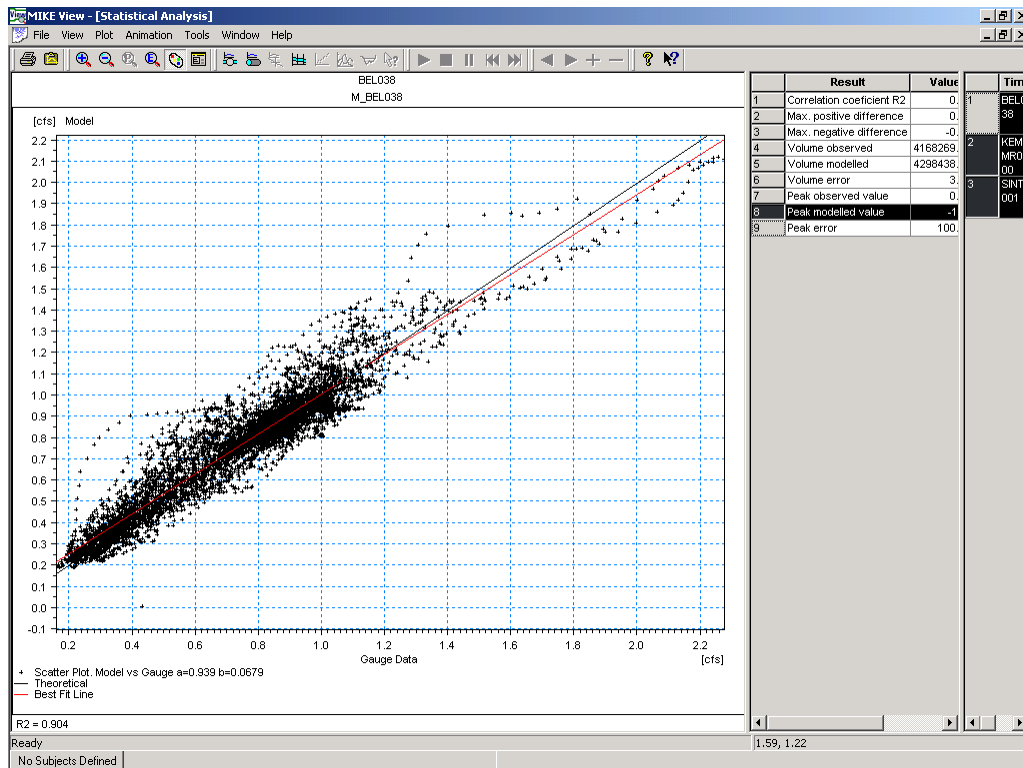

Figure 11-2 The scatter plot
The red line in the scatter plot, see Figure 11-2, is the line of best fit, and the coefficient of correlation ( $r^2$ ) is calculated. The  $r^2$  value is a measure of the degree of intensity of association between the data and the model. A high value (1) indicates that there is a very intense association, while a low value (0) indicates that there is a very low association.